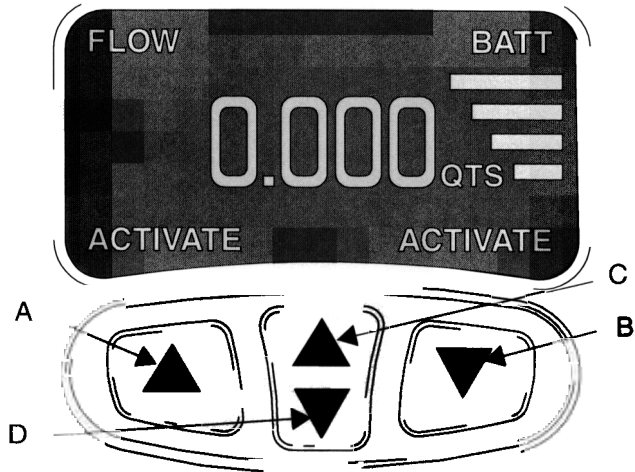

FIG. 5
3. To program the meter with the PC software, hold down both the left up arrow and right down arrow (See FIG. 5) simultaneously until both the ACTIVATE words on the screen become PROGRAM.
The buttons on the keypad are used to select meter functions and enter PIN codes. See FIG. 5: